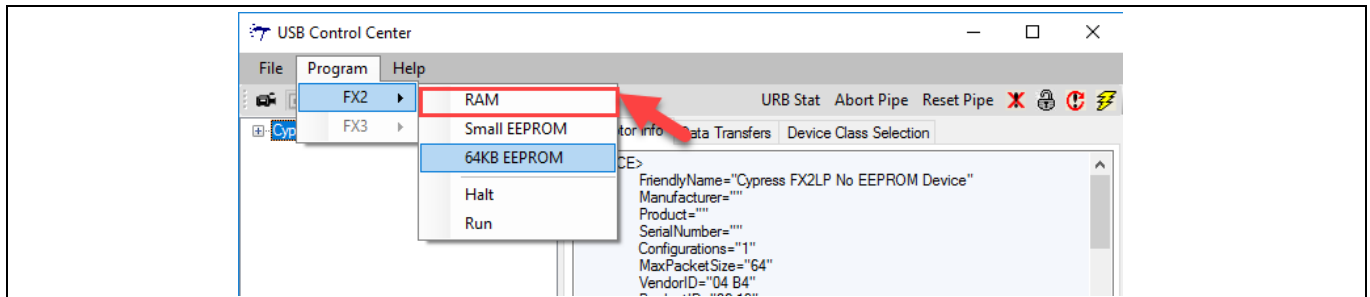

Figure 34 Selecting RAM as Programming Target
3. In the USB Control Center application, follow the path **Program -> FX2 -> RAM** as in Figure 34 to program the firmware code examples (.hex file).